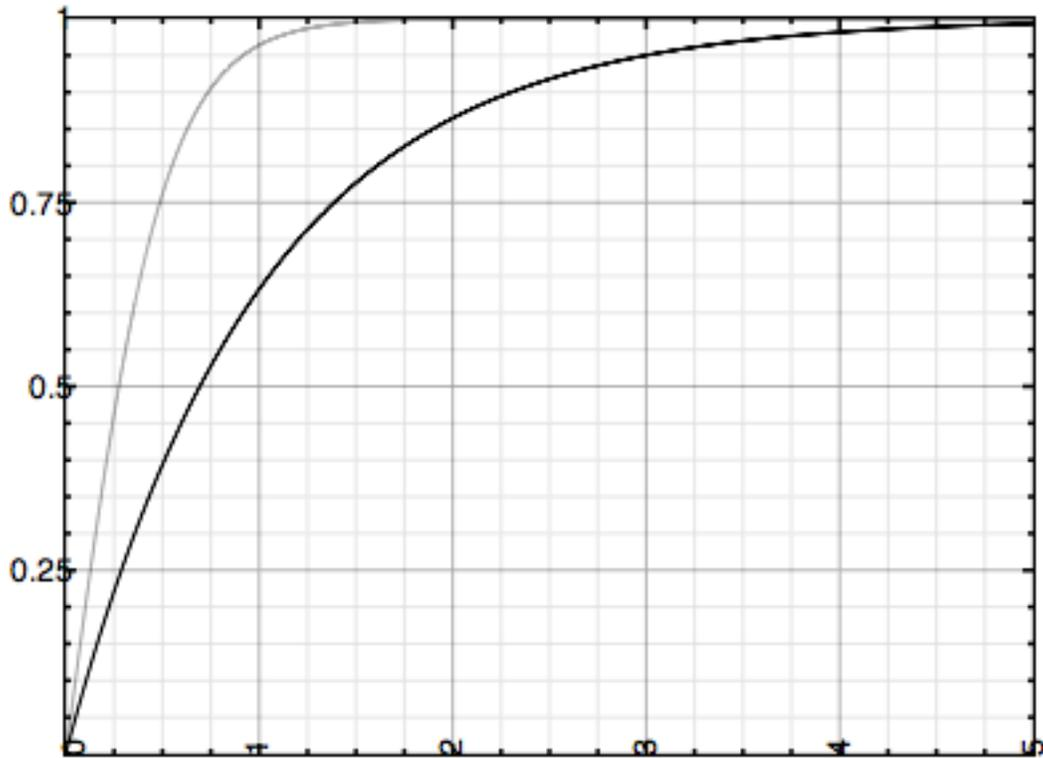

Figure 2: Graph depicting v (in units of v_t) vs t (in units of τ). The heavy line corresponds to equation (4), and the lighter line to equation (5).
If, on the other hand, the drag force obeys equation (5), the velocity is not exactly described by equation (6) but it is qualitatively very similar: $v(t)$ still asymptotically approaches a limiting value v_t , and the approach is not quite exponential but it is still characterized by a time constant $\tau = v_t/g$. The only difference is that the initial approach is much steeper, so that it only takes about 0.9 time constants for v to reach 95% of v_t . Figure 2 shows the two cases.
- Go on to page 4 of the Logger Pro file. Revisit your five data runs for the different numbers of coffee filters. (Remember, to bring back hidden data sets, go to **Data** → **Show Data Set**.) For each run, you already know the terminal velocity; using it, calculate Δt , the amount of time it takes after the drop for the velocity to reach 95% of the terminal velocity. Use figure 2 and remember that the time constant $\tau = v_t/g$. Should you be looking at the heavy curve or the light curve in figure 2?